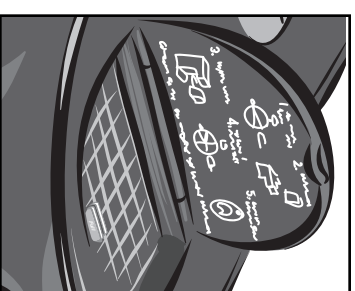

FIGURE 1
3. Make sure the brew basket and decanter are in place on the coffeemaker. Raise the water reservoir lid on the top of the coffeemaker (see Figure 1). Use a separate pitcher to slowly pour 1 gallon (3.8 liters) of cool water into the water reservoir opening. If the red Overfill Indicator floats up, please allow the water to drain into the reservoir before continuing to pour.